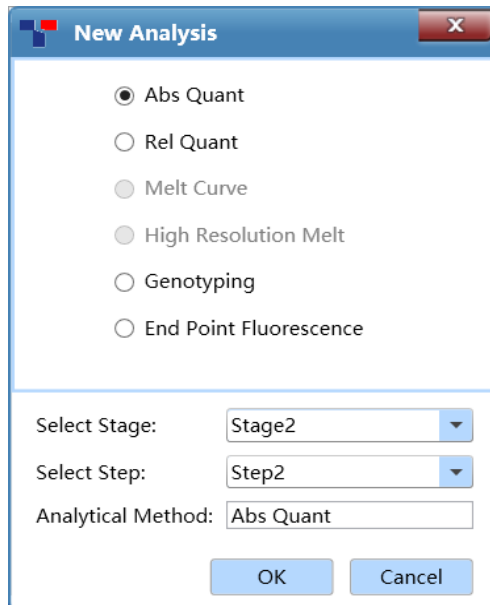

Figure D-8. New Analysis window
- ▶ User can click <  **New Analysis** > icon in Tool Bar and the application software will automatically pop up the new analysis window, as shown in figure D-8.